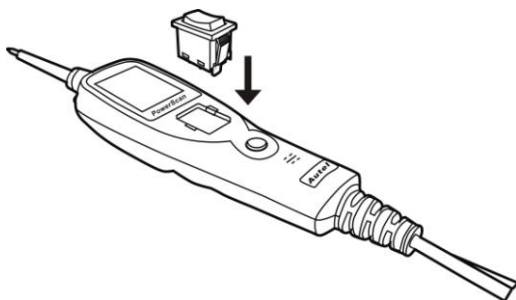

Figure 16
- Make sure to install the switch straight and press until flush with casing. (Figure 16)